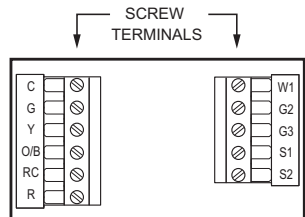

Fig. 4. Terminal identifications for system type.
1. Select set of terminal identifications that correspond to your system type (conventional or heat pump). (See Fig. 4).